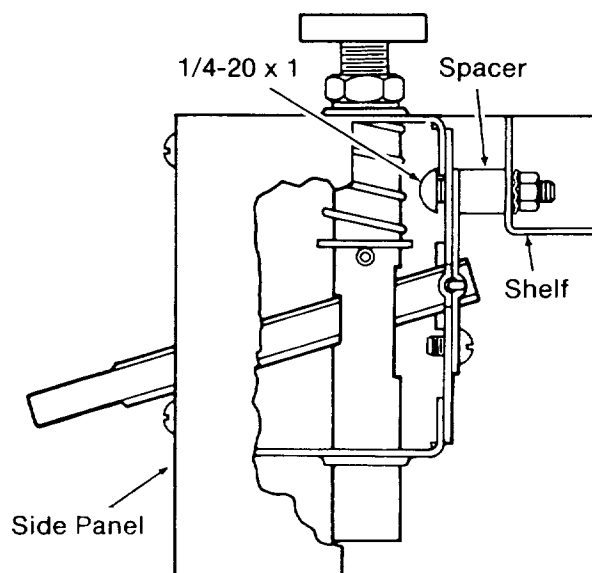

Fig. 39
21. Put a truss head bolt through the *foot assembly*, *spacer*, and *shelf* to hold the *spacer* in place. (Figures 39 & 40)